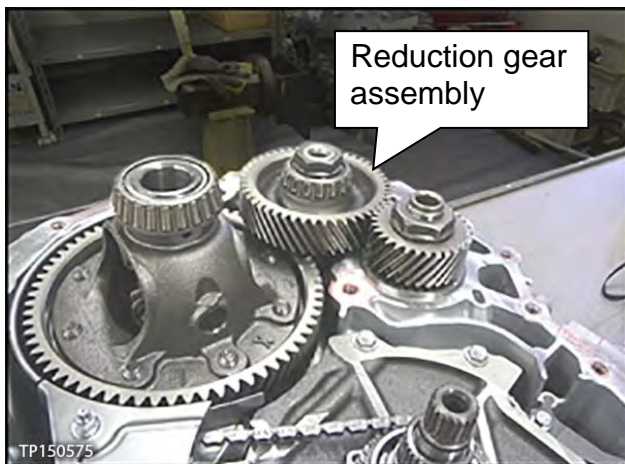

Figure 6B
5. Carefully remove the reduction gear assembly (Figure 6B).